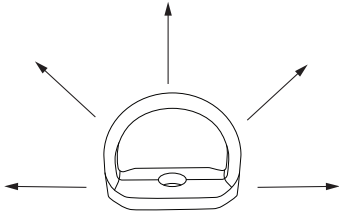

Figure 2 - Approved Load Directions
The Ironworkers Anchor may be attached in a variety of orientations depending on the application at hand. Figure 2 below illustrates the approved load directions of the Ironworkers Anchor.
4. Orient the D-ring to ensure that the predicted load direction is in line with the major axis of the D-ring. See Figure 2. Do not cross load the D-ring. Avoid orientations that cross load or transversely load connectors.